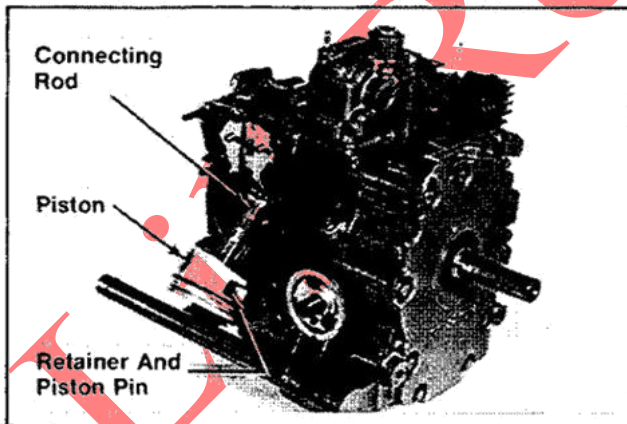

Figure 9-31. Removing Pistons.
NOTE: Disassembly procedures after cylinder barrel removal should be accomplished with engine on its side. Refer to Figure 9-31.
1. With a marking pen or paint, mark the pistons and connecting rods as #1 side and #2 side. Refer to Figure 9-31.